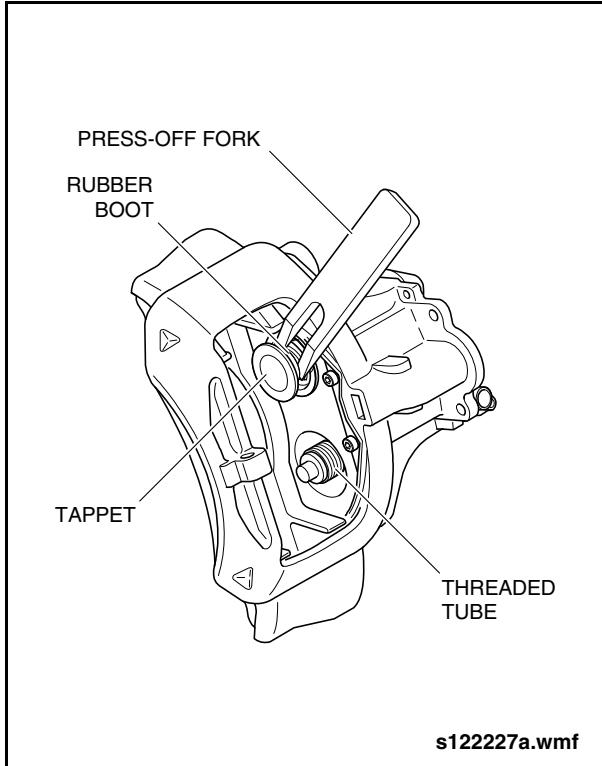

Fig. 1-68: Removing Tappets
3. Use a sharp knife to cut the rubber boot on the tappet. Insert the press-off fork tool (Item 81 from special tools list) between the tappet and the end of the threaded tube with the flat side of the forks against the threaded tube. See "Fig. 1-68: Removing Tappets" on page 67.